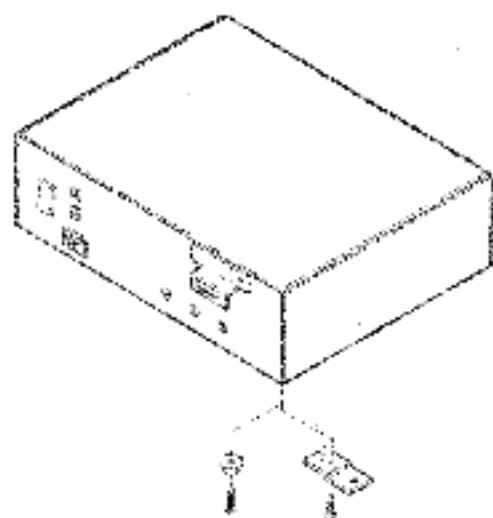

Figure 4-13 Mounting the TU58-EA and -EB
3. Install the four rubber feet using the four 1.3 cm (1/2 in) Phillips head screws to secure them to the bottom plates (Figure 4-13).
2. Install the four mounting brackets (bracket facing the side of the TU58 housing) using the four 1.3 cm (1/2 in) Phillips head screws and lock washers to secure them to the bottom plates (Figure 4-13).